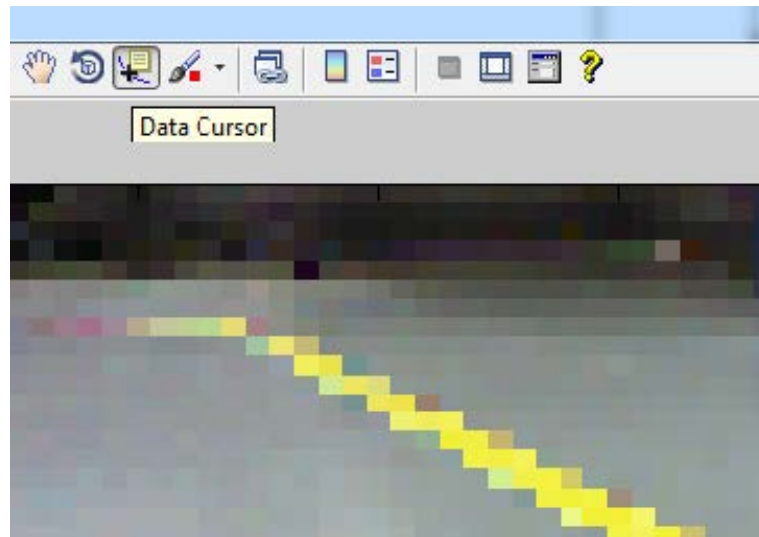

Figure 2.2: Data cursor mouse function to get RGB data from the image
5. Bring the colored sheet close to the QBot 2, and use the RGB image to estimate the RGB values of the paper. To do so, change the mouse function to "Data Cursor" as shown in Figure 2.2. Select a point and move it to different locations on the RGB image, and note the RGB values for a few points on the card. Tilt the card in various orientations and observe the changes in the measured colours. Then define a range for the RGB values that represent the colour of the card.